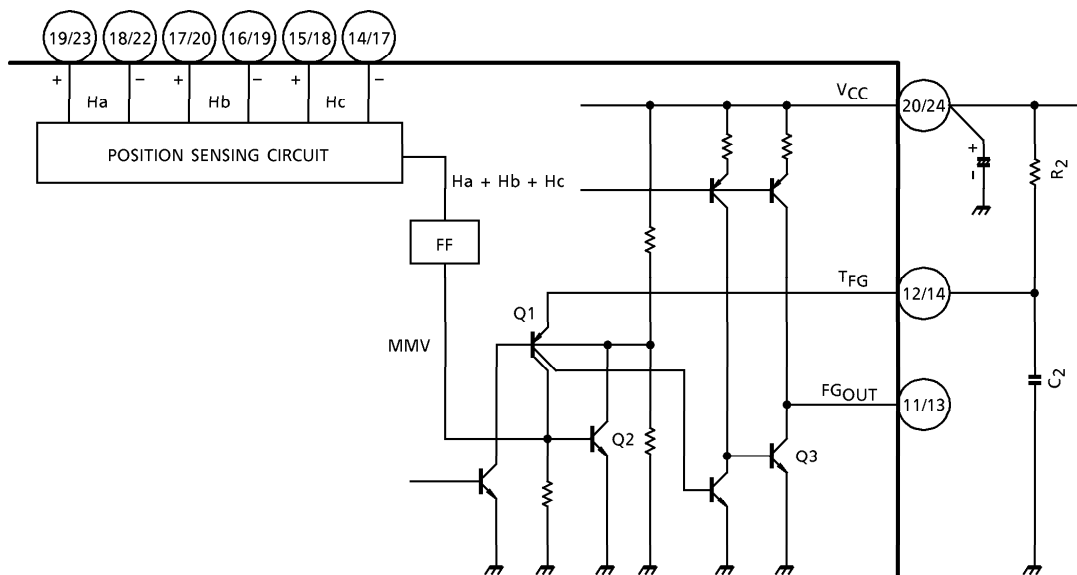

Fig.1
(1) Operation of FG output (pin ⑪ / ⑬) and T_{FG} (pin ⑫ / ⑭)
In Fig.1, Q1 and Q2 are the monostable multi-vibrator to which gate (Q2 base) the signal from each position sensing input of Ha, Hb and Hc is input after ORed and shaped in waveform by FF. The pulse width of MMV made by Q1 and Q2 is determined by R_2 and C_2 to be connected to T_{FG} (pin ⑫ / ⑭), and the square wave having the pulse width to be determined by C_2 and R_2 is output. Of course, this frequency is proportional to the rotation signal and this frequency is six times the frequency of each position sensing. (6 per 1 electrical rotation)